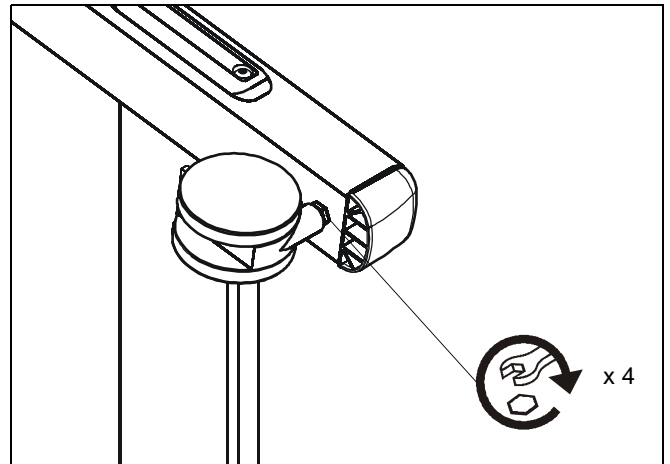

Figure 24
3. Check and tighten the hex nuts on the casters occasionally. (See Figure 24) These should be checked especially after use on uneven ground.